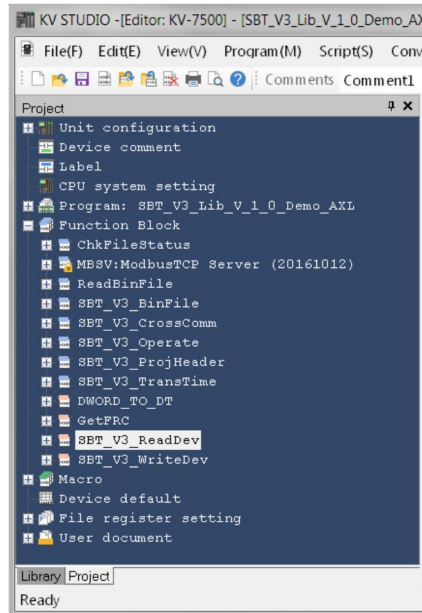

Figure 4-21 Integrating the library
- Open the example project “SBT\_V3\_Lib\_V\_1\_0\_Demo\_AXL”. See Figure 4-21.